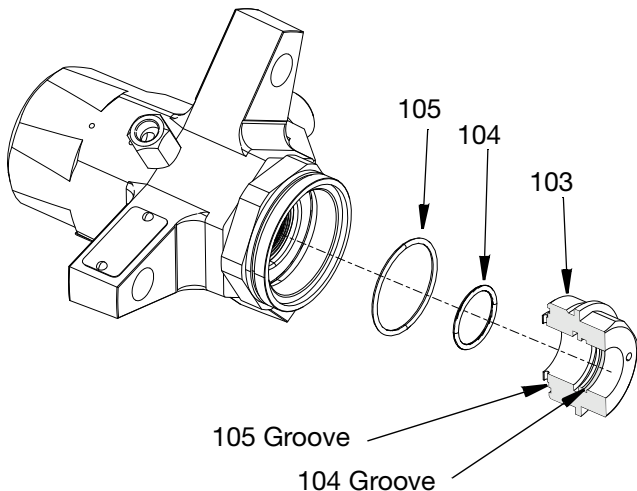

FIG. 28
- Apply anti-seize to threads and screw the seal retainer (103) into the outlet housing (109). See FIG. 28. Torque to the following specifications: